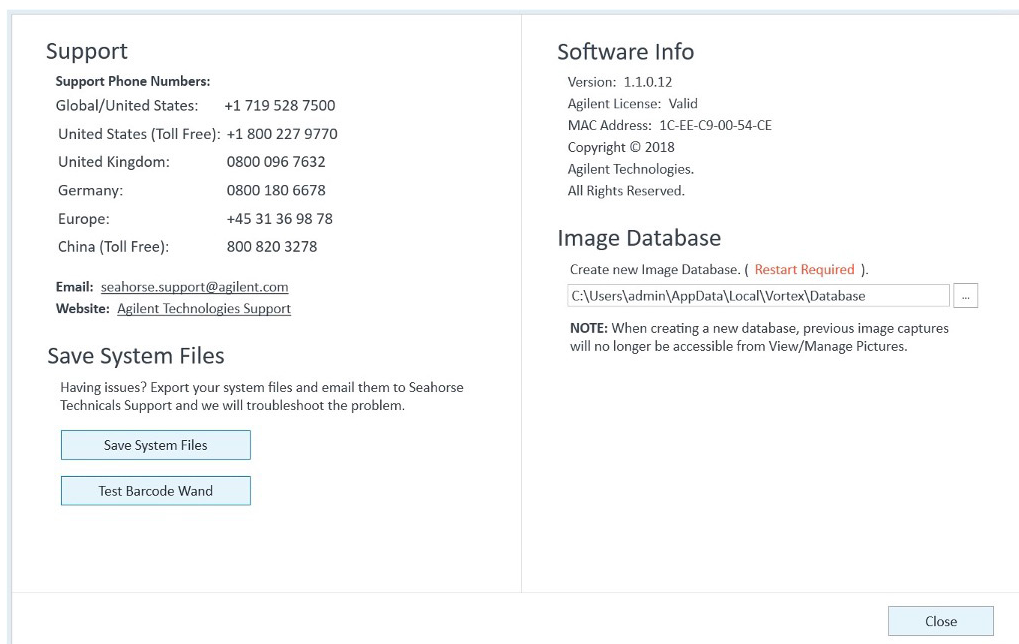

Figure 34. The path of the **Image Database** file shown in the **Help** view.
- 12 Go to the **Help** view and note the path of the **Image Database** file (**Figure 34**).